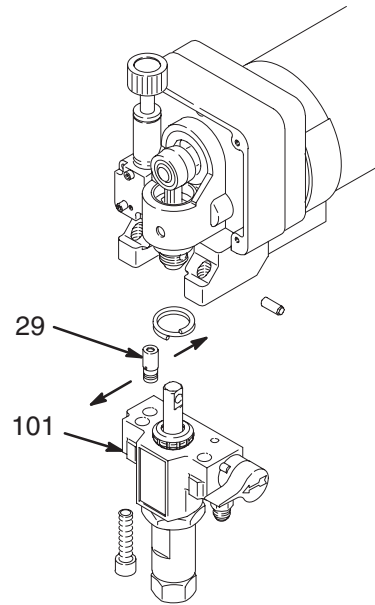

Fig. 27
NOTE: See Fig. 27 for this procedure.
2. Use a pull-twist motion to remove the transducer (29) from the pump manifold (101).
6. Align the holes in the transducer as shown by the arrows in Fig. 27.